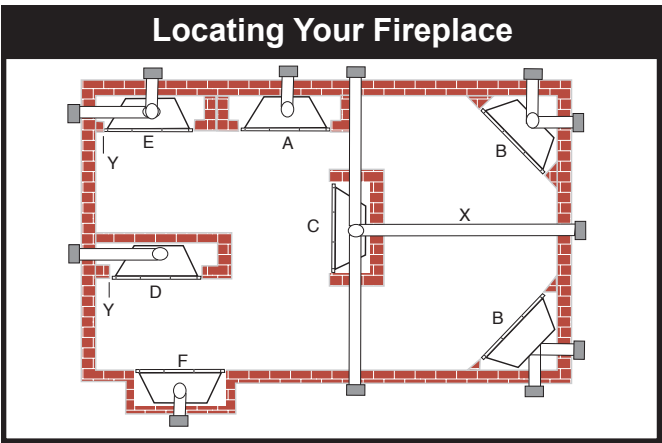

Fig. 2 Locate gas fireplace.
Note (Fig. 2):
** Island (C) and Room Divider (D) installation is possible as long as the horizontal portion of the vent system (X) does not exceed 20' (6m). See details in manual Venting Section.
* When you install your fireplace in(D) Room divider or (E) Flat on wall corner positions (Y), a minimum of 6" (152mm) clearance must be maintained from the perpendicular wall and the front side edge of the fireplace. See (Y) in Fig. 2.